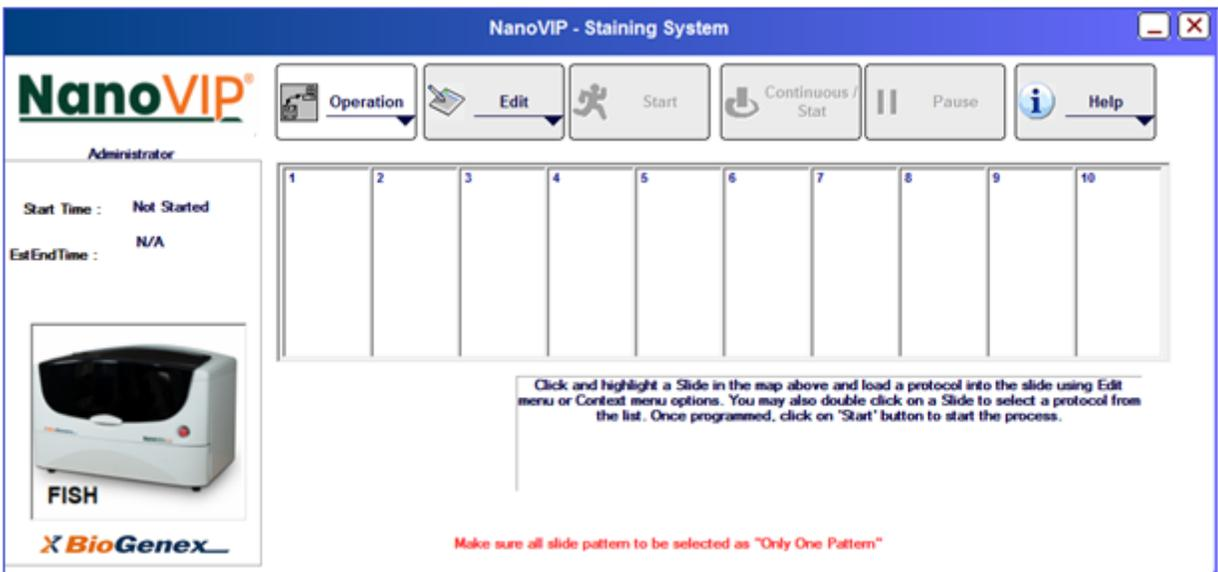

FIGURE 26:<STAINING SYSTEM> WINDOW
1. From the <Selection Window> select <Run> (Figure 13) to open the <Staining System> window (Figure 26).